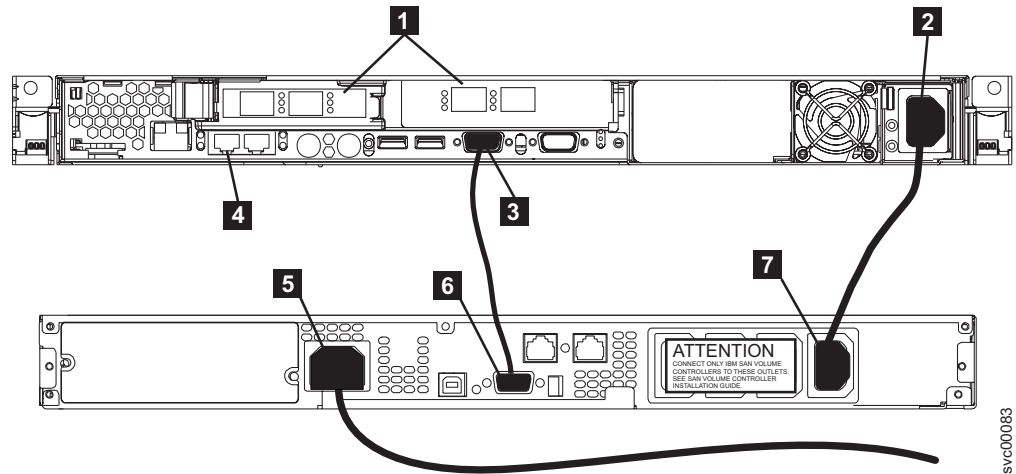

Figure 65. Connecting the SAN Volume Controller 2145-8F2 power cable to the 2145 UPS-1U
1. At the back of the SAN Volume Controller 2145-8F4 or the SAN Volume Controller 2145-8F2, plug the combined power and serial cable into the power connector **2**. See Figure 65 on page 93.